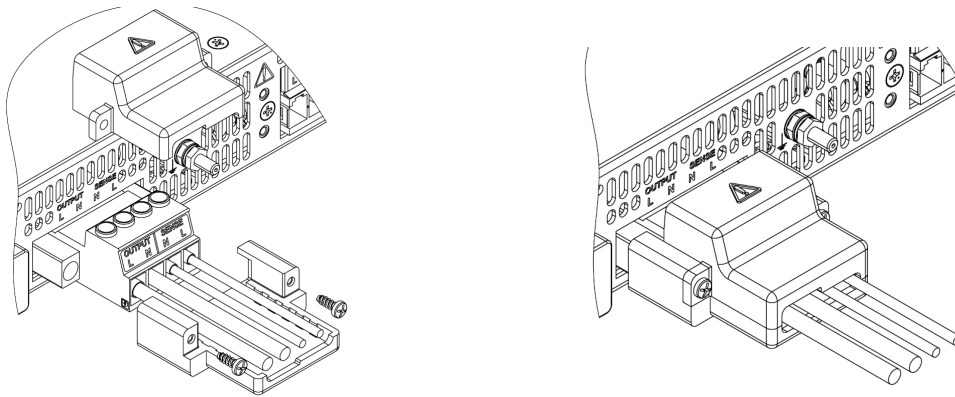

Figure 7-10: Fixing the Output Cover
7. Fix the output cover using 2 screws (WN1412(KA30X8)) provided with the power source; refer to **Figure 7-10**. Use a tightening of 5.2 lbf-inch (0.58Nm).
4. Fix the output cover using 2 screws (WN1412(KA30X8)) provided with the power source; refer to **Figure 7-10**. Use a tightening of 5.2 lbf-inch (0.58Nm).